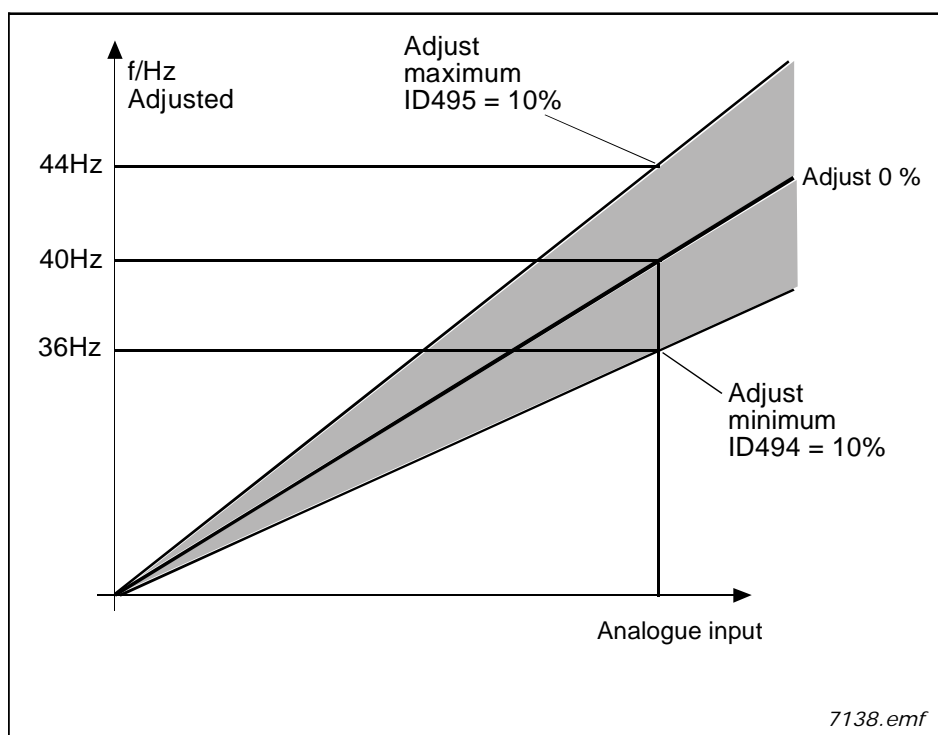

Figure 63. An example of adjust input
**494**      **ADJUST MINIMUM**      **6**      **(2.2.1.5)****495**      **ADJUST MAXIMUM**      **6**      **(2.2.1.6)**These parameters define the minimum and maximum of adjusted signals. See Figure 63. **NOTE:** The adjustment is made to the basic reference signal.